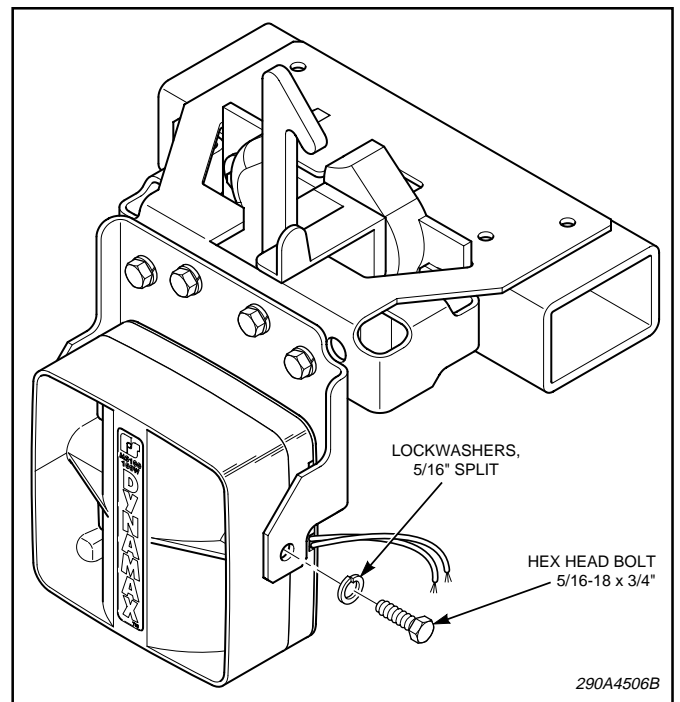

Figure 5.
4. Mount the speaker to the bracket using two 5/16-18 bolts and split lockwashers. Adjust the speaker so that the front face of the speaker is perpendicular to the ground. See figure 5.